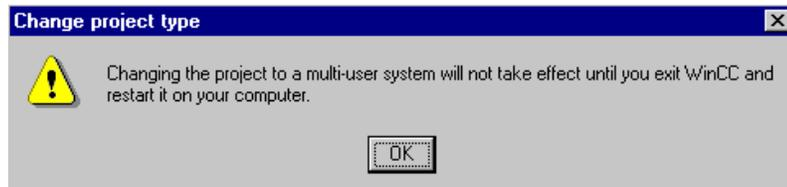

Figure 7.3 WinCC Project "QckStart"; Dialog Warning to Restart WinCC
3. After changing the system type for the project, a dialog box will appear indicating that WinCC must be shut down and restarted before any changes may be viewed. Select OK and proceed to shut down WinCC. See Figure 7.3.